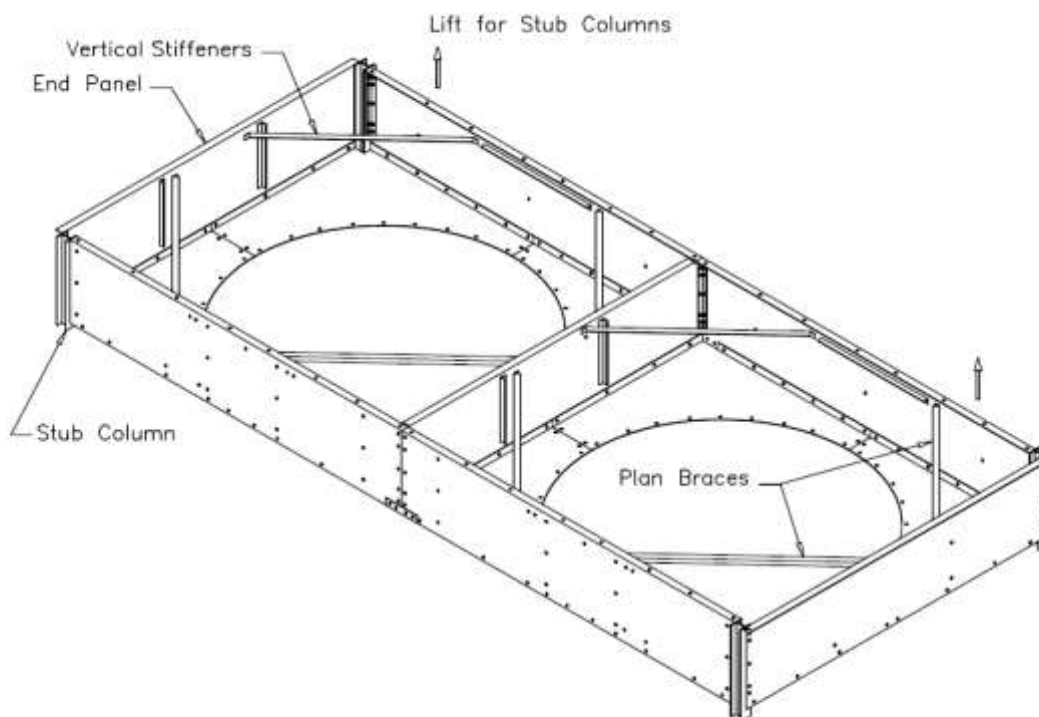

FIG.B2—STUB COLUMNS, END PANELS, AND PLAN BRACES
2. Install stub columns to both ends of side panels. Lift at each end of side panels, using lifting eyes by others. Install end panels to bottom panels and columns. Install plan bracing, square off the unit, and tighten bolts. See Fig. B2.